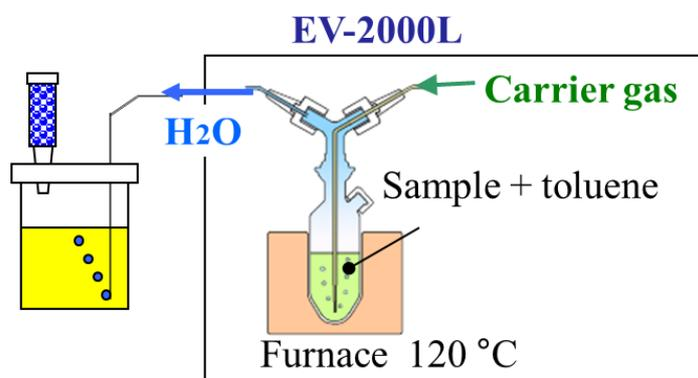
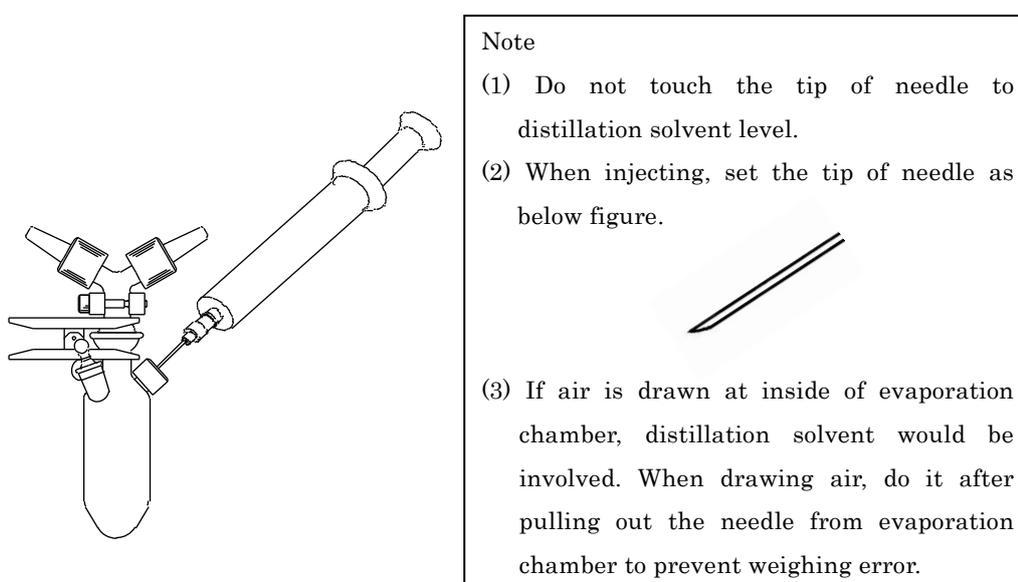

Fig.3.3. Schematic diagram of azeotropic distillation method.
Fig.3.4. Sample injection into evaporation chamber.
- (2) Start blanking to attain stable background.
- (3) Connect electrolytic cell and evaporation chamber with tube. Flow carrier gas with 50 mL/min.
- (4) Fill 5mL of distillation solvent in evaporation chamber and heat the chamber at 120 °C.
- (5) Keep blanking to attain stable background with carrier gas flowing into electrolytic cell.
- (6) Wash the syringe with sample.
- (7) Draw the sample into syringe and then weigh the syringe.
- (8) Inject sample from rubber septum of distillation chamber as shown in Fig.3.3 and Fig.3.4.
- (9) Start titration. Measurement parameter is shown in Table 4.2.
- (10) Weigh the syringe again and then set the difference of weight to sample size.